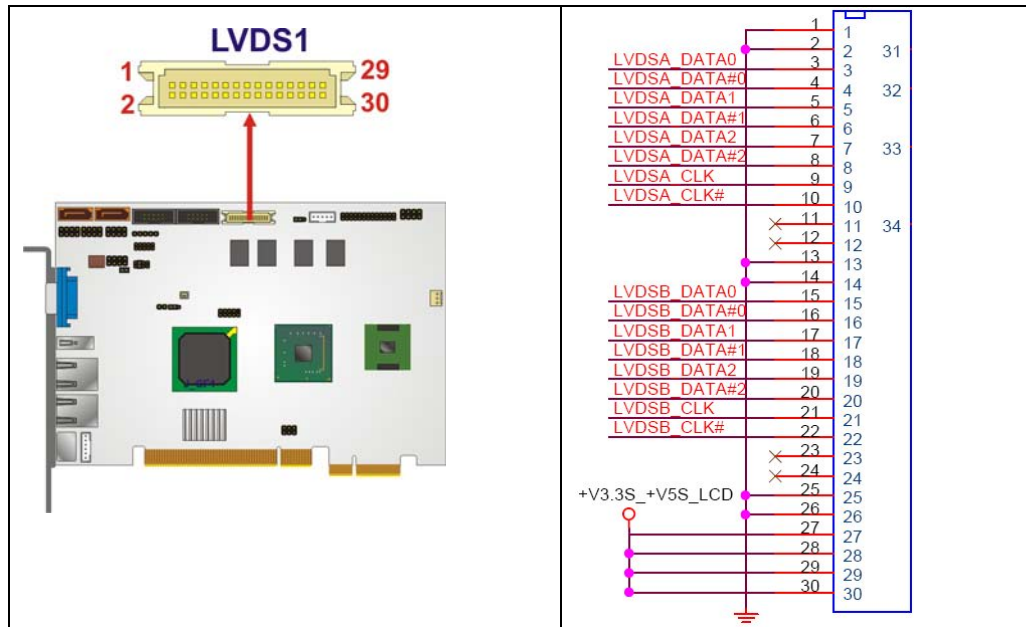

Figure 4-12: LVDS LCD Connector Pinout Location
- CN Location:** See Figure 4-12
CN Location:	See Figure 4-12